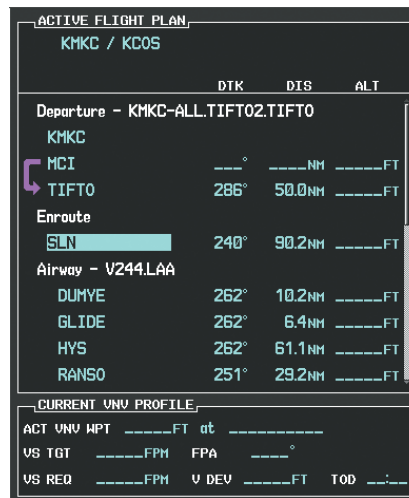

Figure 5-114 Begin Adding V4 to the Flight Plan
b) The desired entry point for V4 (TOP) must be entered. Turn the large **FMS** Knob to highlight the desired flight plan insertion point (SLN) as shown in Figure 5-114. When the V4 entry point (TOP) is inserted, it is placed immediately above the highlighted waypoint (SLN).